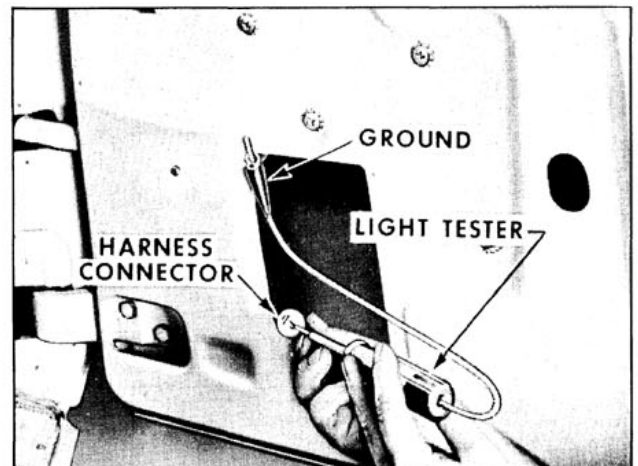

Fig. 16-172 Checking Wiring Between Switch and Door Motor
3. With light tester, check for current at terminal being checked. If tester does not light, there is an open or short circuit in the harness between the control switch and motor connector. (Fig. 16-172)